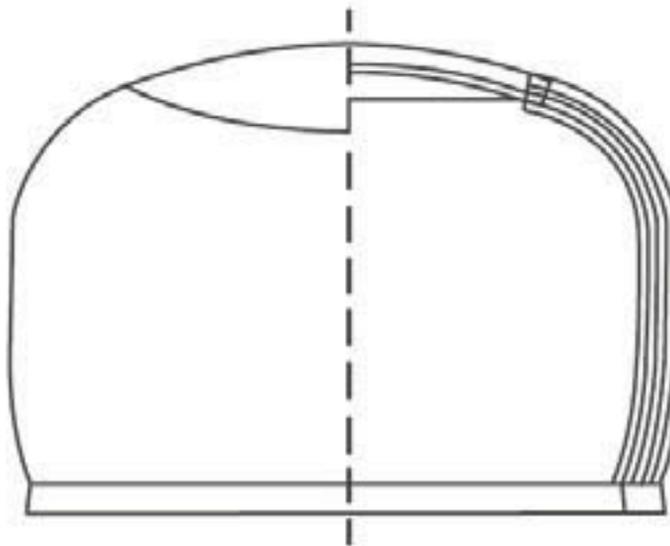

Fig. 44: Wall thickness of a 30 m3 wire-reinforced ferrocement jar
- The base of the tank walls also needs to be thicker for a large tank. For a 30,000 L tank, an additional set of horizontal wire wrapping and an additional layer of cement mortar are added to the bottom 90 cm of the tank (figure 44).